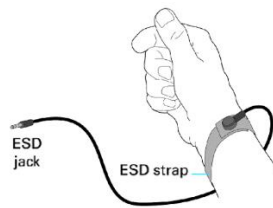

Figure 3 – Electrostatic discharge protection strap.
- If available in your laboratory, wear an ESD strap (Figure 3) connected to a proper ground when handling parts. If it is not available, touch some metal object just before handling the electronic components to discharge.